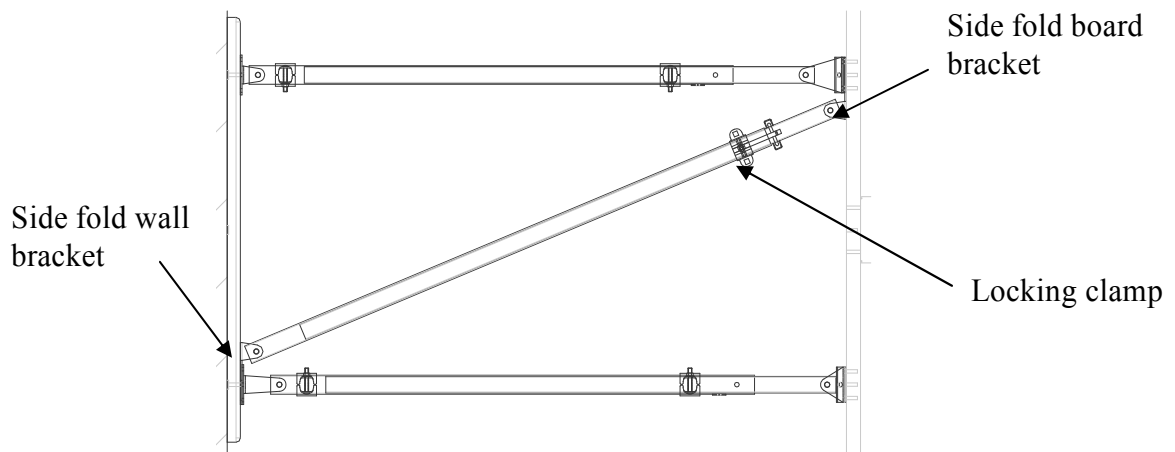

Figure 6. Slide pipe installation showing hinge brackets; slide pipes, and locking clamp. Install slide pipe on lower extensions.
- 14) Next, slide the other end of the slide pipe into the remaining side fold bracket and secure with the 1/2-13 x 3 hex bolt and 1/2-13 lock nut provided, (as shown in figure 6).